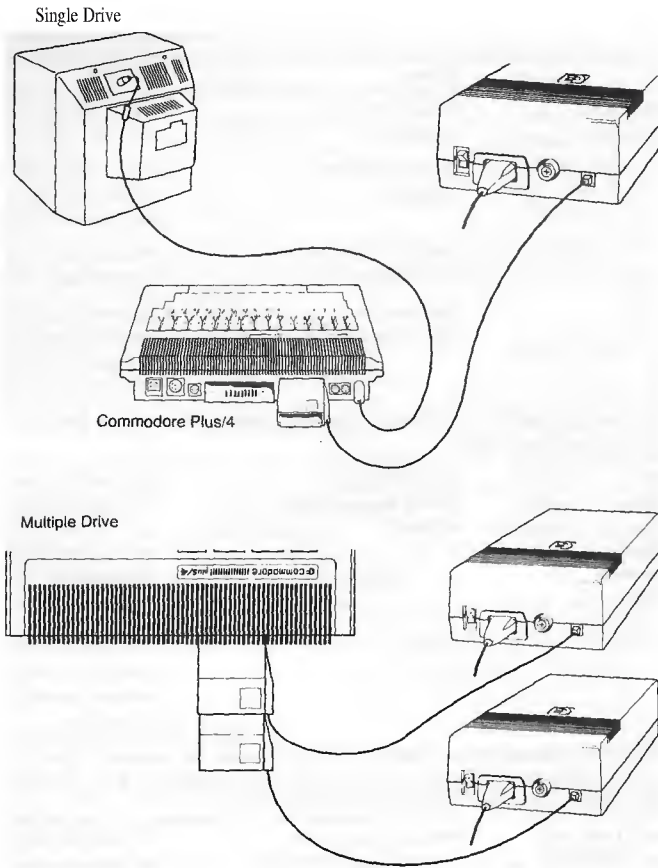

Figure 3. Disk Drive to Computer Hookup
- Figure 3: Single and twin drive hookup
After plugging the power cord into the disk drive and a suitable outlet, take the interface connector and insert it into the Memory Expansion slot of your computer. That's all there is to it (see Figure 3).